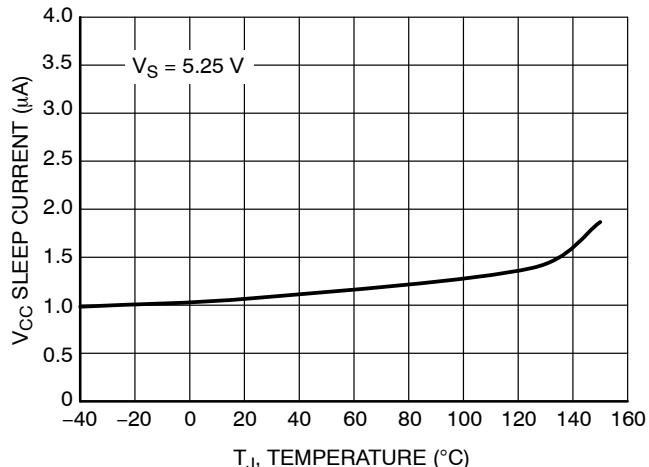

Figure 7. VCC Sleep Supply Current vs. Temperature
6. For temperatures above 85°C, refer to Figure 7.
6. For temperatures above  $85^{\circ}\text{C}$ , refer to Figure 7.